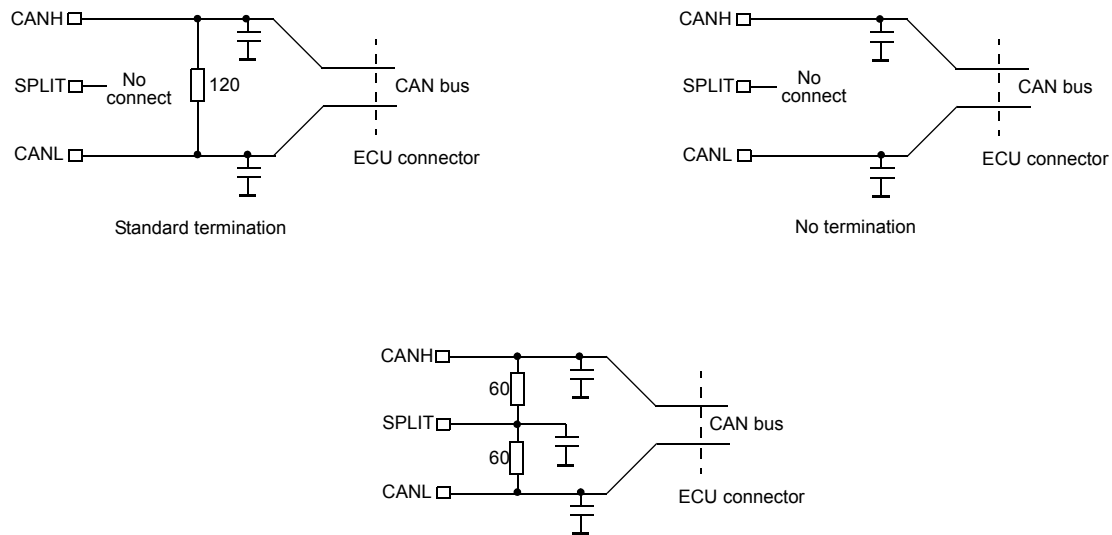

Figure 39. Bus Termination Options
- Figure 39 illustrates some of the most common terminations.